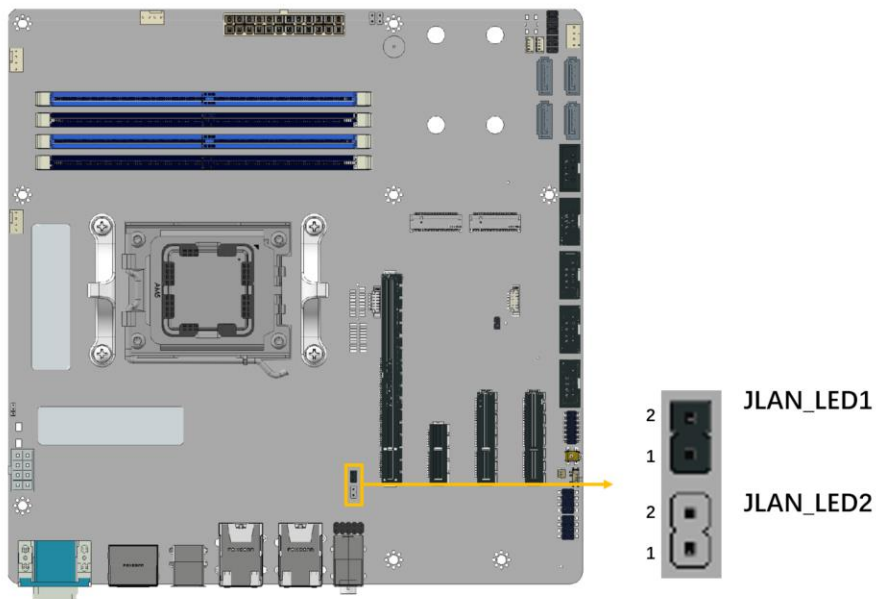

Figure 4-21: LAN LED Connector Locations
- CN Location:** See **Figure 4-21**